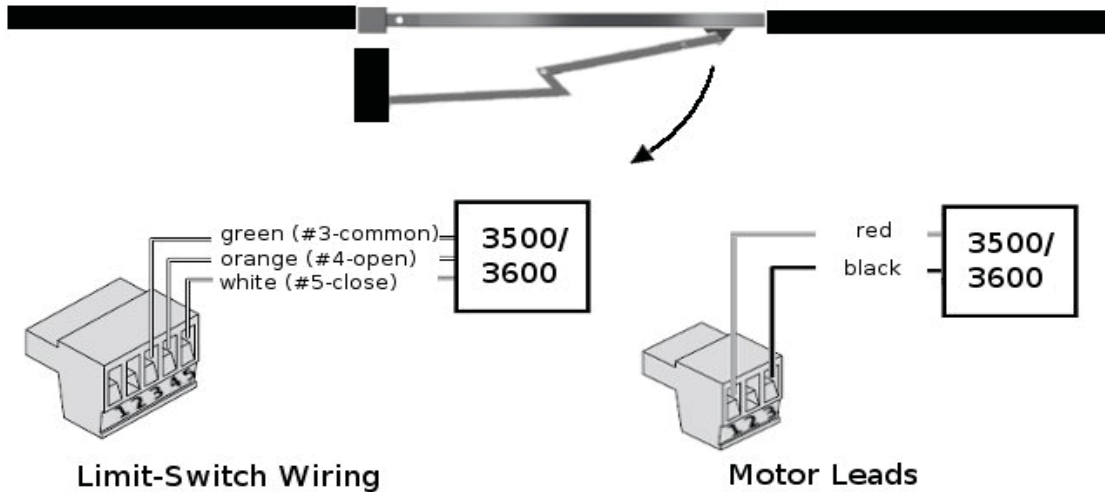

Figure 13: limit switch wiring for left hand operation
4. Manually move the gate mid-way and re-engage the motor setting the MOTOR DISCONNECT SWITCH on ON position (see Figure 19). Test motor direction by pressing OPEN. If the gate instead CLOSES swap the RED and BLACK motor leads shown in Figure 13 & 14. Using the OPEN button on the front of the Control board, hold the button down until the gate reaches the fully intended open position.